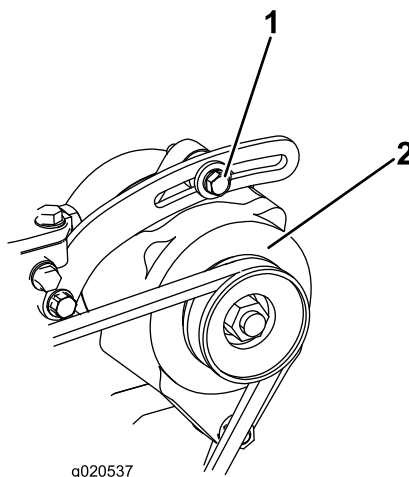

Figure 75
Check the condition and tension of the belts (Figure 75) after every 100 operating hours.
1. Loosen the alternator mounting bolts (Figure 75).